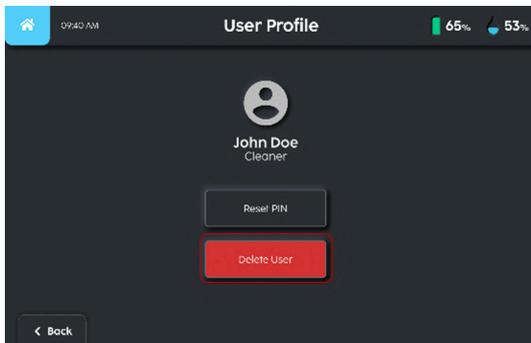

FIGURE 3-18
2. Select 'Delete user' (**Fig. 3-18**).